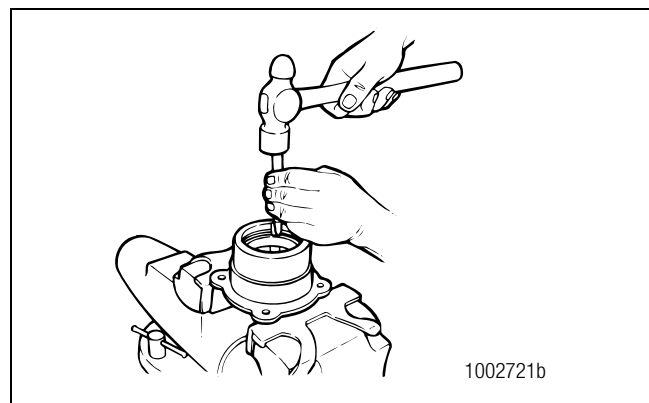

Figure 3.16
4. If necessary, use a brass drift and hammer to carefully tap the inner cup from the cage. Discard the cup. Figure 3.16.